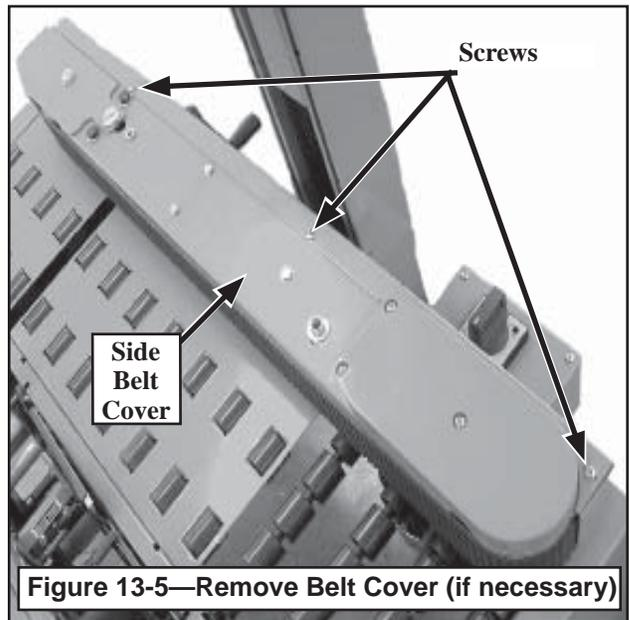

Figure 13-5—Remove Belt Cover (if necessary)
4. If using the old belt, continue with the next step. If the old belt cannot be used to install a new belt, remove the Belt Drive Cover with a Phillips Screwdriver (**Figure 13-5**).